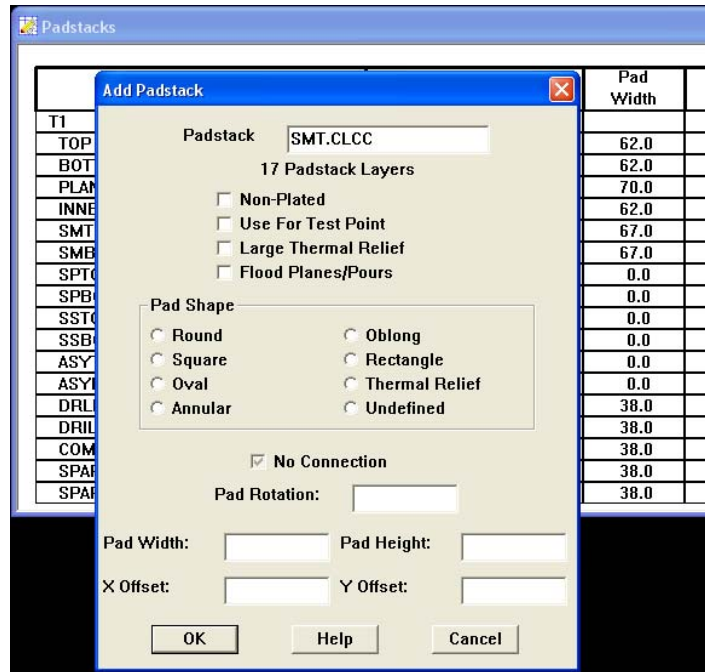

Figure 3.10: Creating a New Padstack
11. Name the padstack → SMT.CLCC, Click → OK (*See Figure 3.10*)